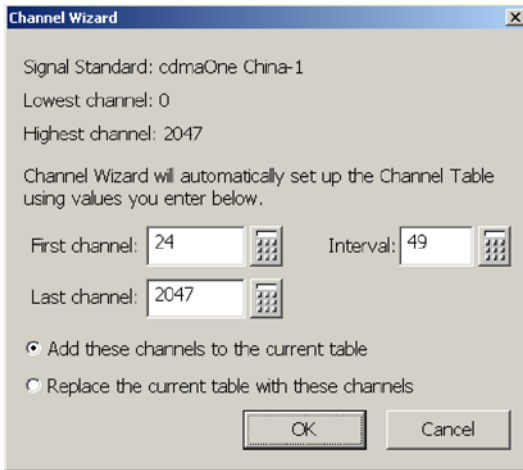

Figure 2-16: The Channel Wizard
4. To enable channels using the Channel Wizard, tap the **Channel Wizard...** button. This displays the window shown in Figure 2-16.